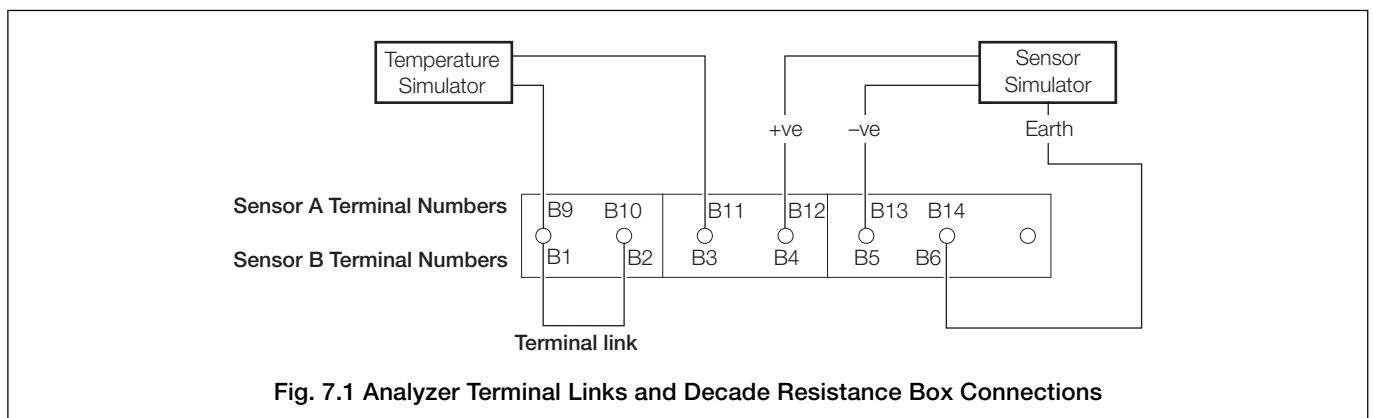

Fig. 7.1 Analyzer Terminal Links and Decade Resistance Box Connections
- b) Sensor A – Fig. 7.1:
- 1) Link terminals B1 and B2 (dual input analyzers only) – Fig. 7.1.